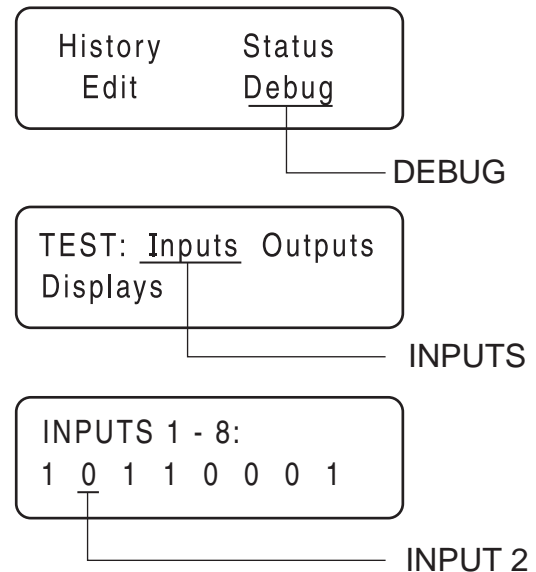

Figure 149. The Home Page, Debug and Input Screens
- f. Digital Input 2 is Wire 86 from the Low Oil Pressure switch to the board. Refer to Figure 149.